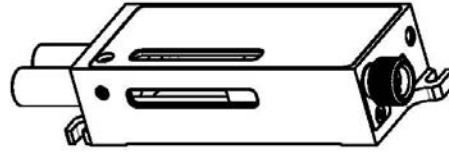

Figure 2 Mechanical Dimensions (in mm)
Figure 2 shows the mechanical dimensions of the VDL-004, including the size and locations of mounting holes. The VDL-004 has 3 mounting holes located at the corners. 2-56 screws can be used to mount it to a surface or a base plate.
1. If applicable, mount VDL to optical table, board, or base plate using 2-56 screws (see Figure 2).